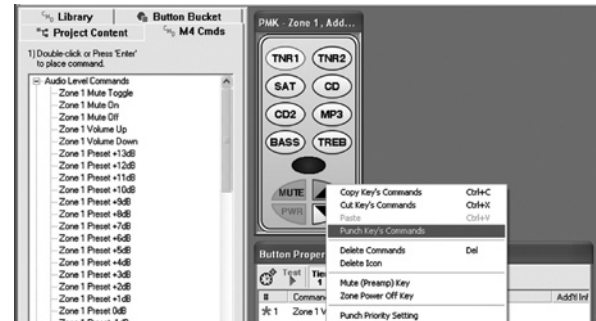

Figure 13 Punch Programming
4. Double-click **Zone 1 Volume Up** command from the list (if you are programming Zone 1). Refer to **Figure 13**.
5. To **Punch**, right-click the Vol Up button and left-click **"Punch key's Commands"** and **"Yes"** on the pop-up. Refer to **Figure 13**. Repeat this for Vol Down. The commands under these keys will now appear regardless of the source selected.